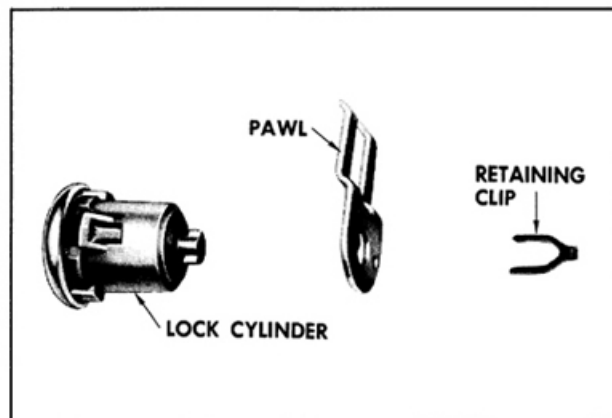

Fig. 16-346 Front Door Lock Cylinder Assembly
2. With a suitable tool, remove retaining clip and pawl. (Fig. 16-346)